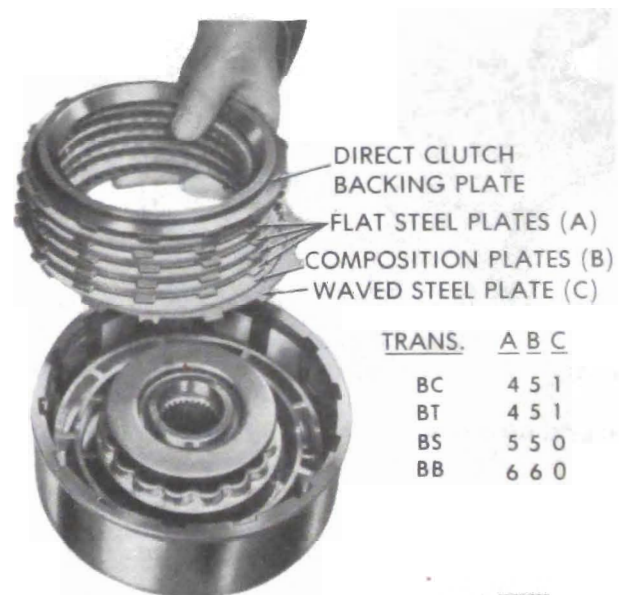

Figure 7D-150
3. Turn unit over and remove backing plate to clutch housing snap ring. See Figure 7D-149.